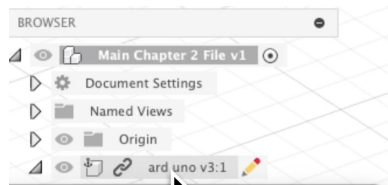

Figure 1.2
- Once a component is inserted, you can right-click the '**Component**' in the '**Browser**' and select '**Break Link**' to manage its connection or grounding. (see Figure 1.2).